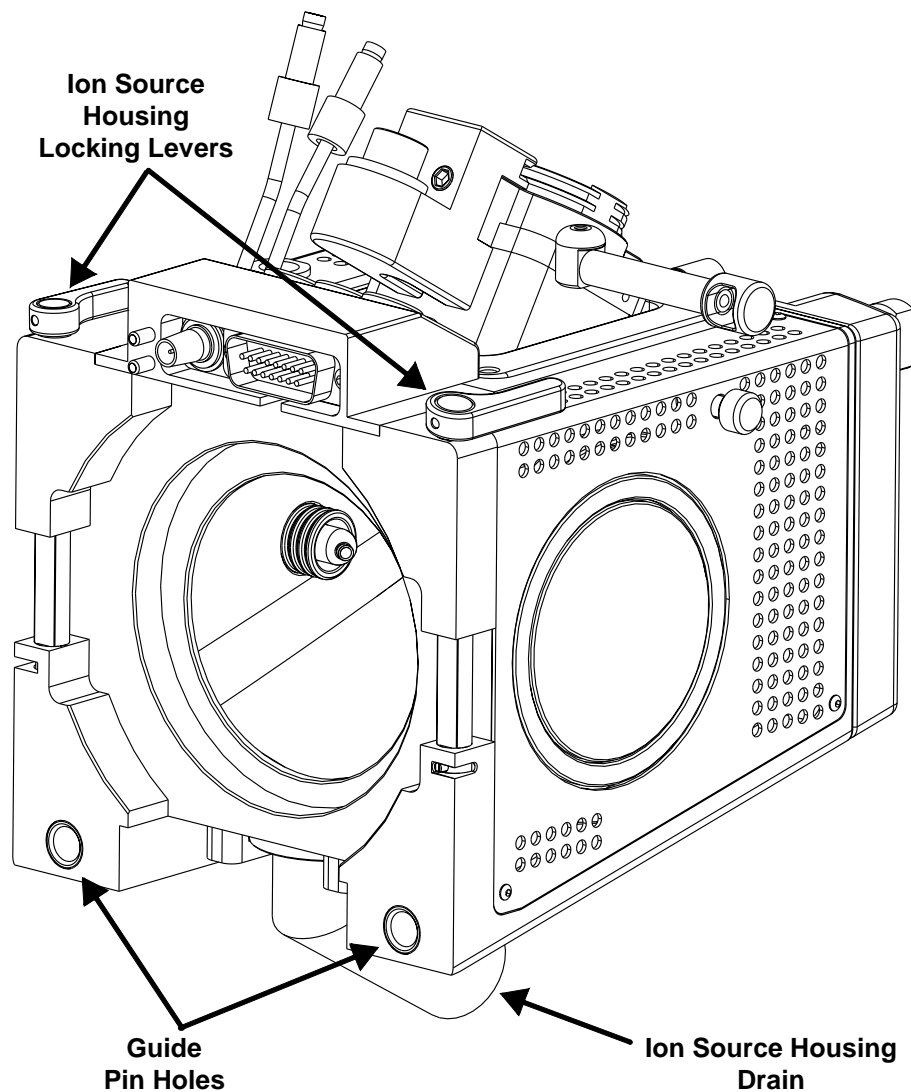
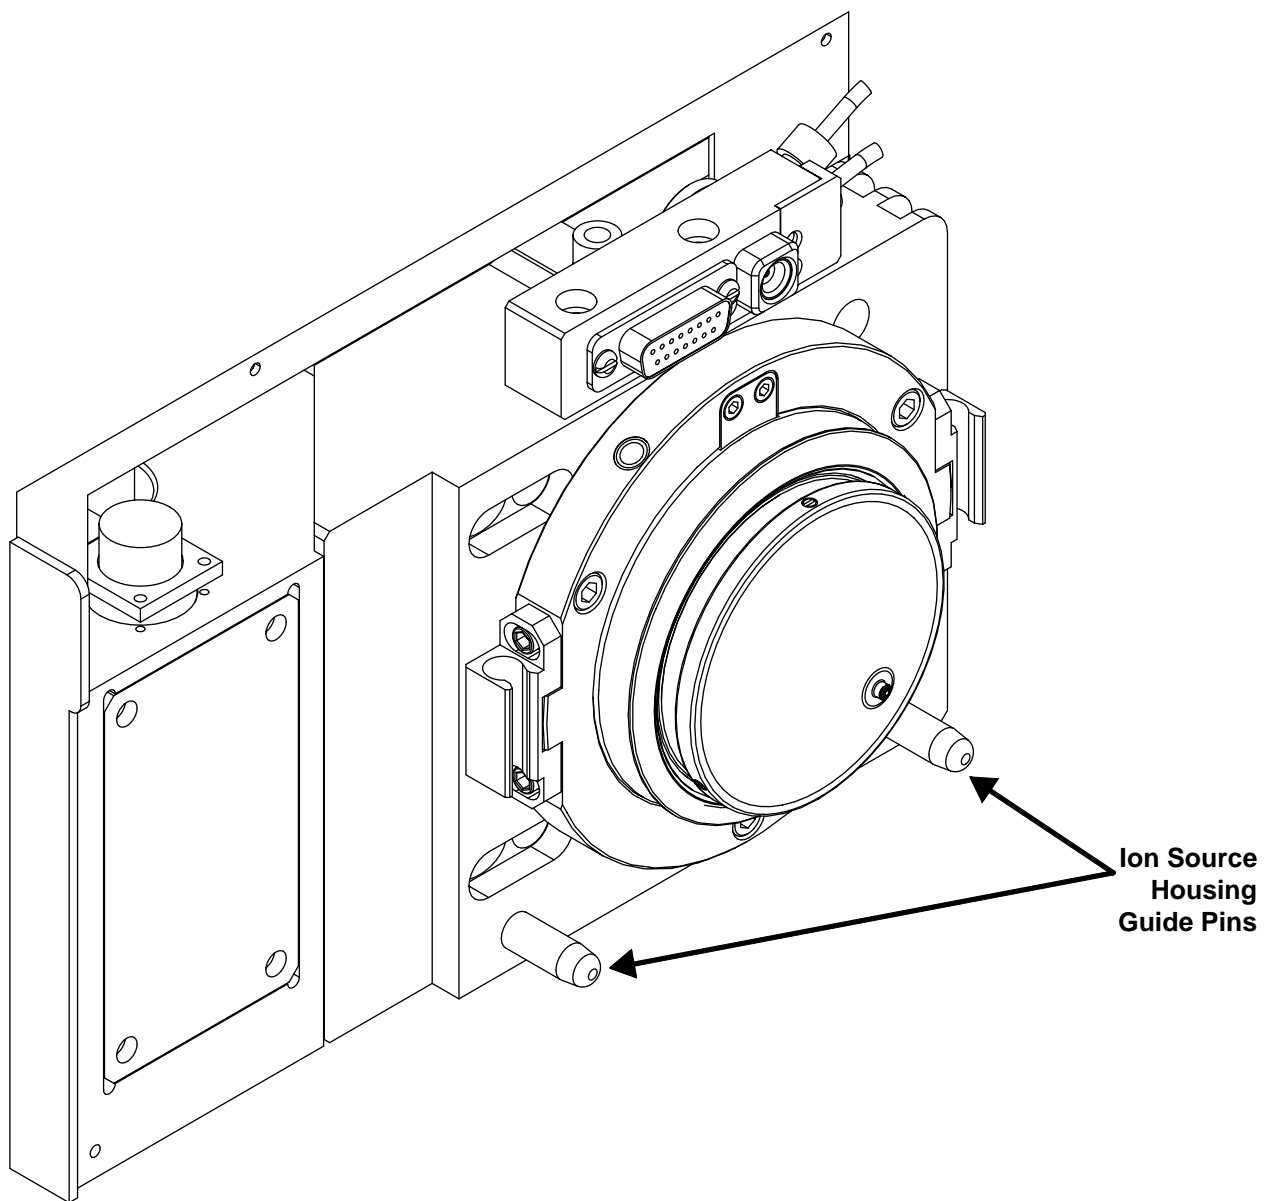

Figure 4-8. Rear view of the Ion Max ion source housing
Figure 4-9. Ion source mount showing ion source housing guide pins
1. Carefully align the two guide pin holes on the rear of the source housing with the ion source housing guide pins on the mass spectrometer, and carefully press the ion source housing onto the ion source mount. See Figure 4-8 and Figure 4-9.